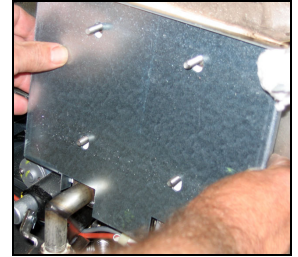

Figure 14
10. Remove four screws on the collector insulation plate (see Figure 14).